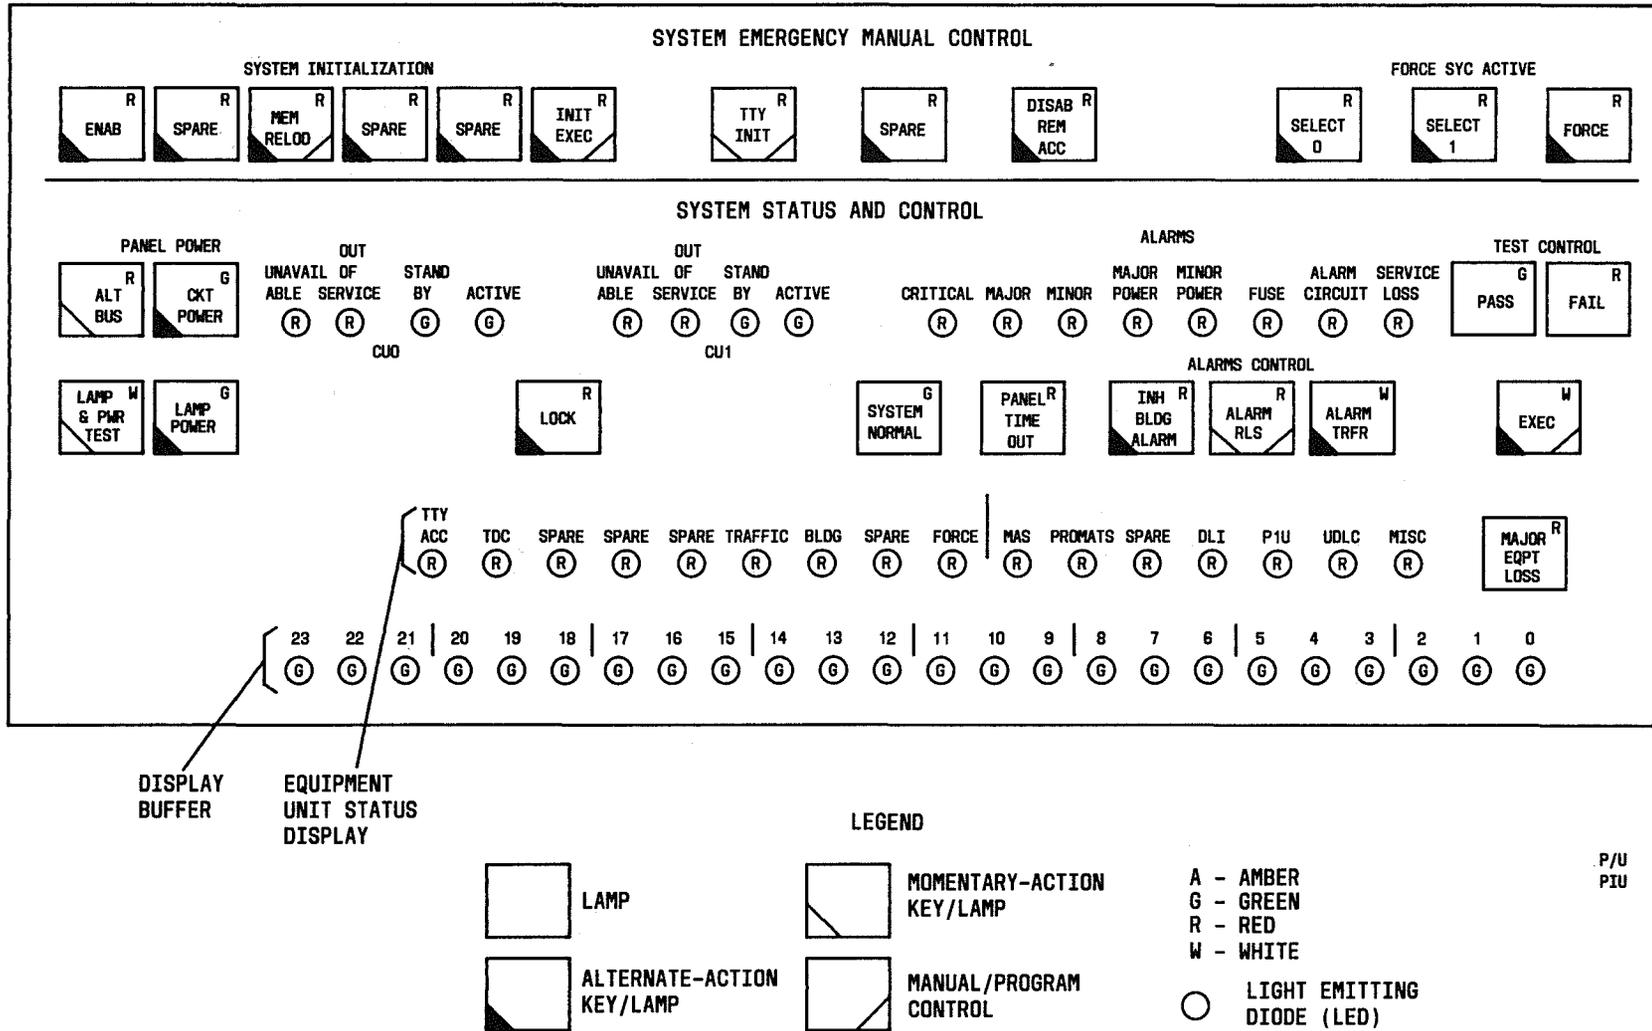

Fig. 5—System Status Panel Keys, Lamps, and LEDs
- 6 At the system status panel (SSP), operate the LOCK key to lock the on-line central processor unit (CPU) on line (see Fig. 5).
- 7 Place off-line central control (CC) out-of-service state (split memory) by entering:
- 7 At the system status panel (SSP), operate the LOCK key to lock the on-line CPU on line (see Fig. 5).
1	At the SSP, operate LOCK key to lock on-line CPU on line (see Fig. 5).